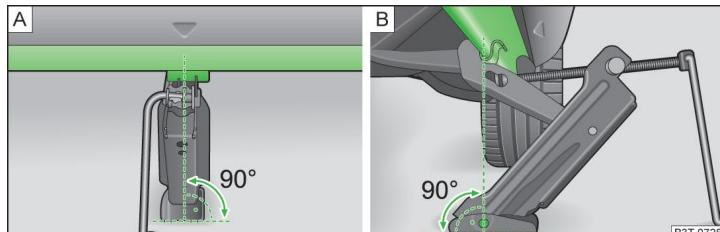

Fig. 143 Attach lifting jack
- Offer the jack up so that its claw encloses the web » Fig. 143 - B.
- Support the base plate of the jack with its full area resting on level ground and ensure that the jack is located in a vertical position at the point where the claw encloses the web » Fig. 143 - [A].